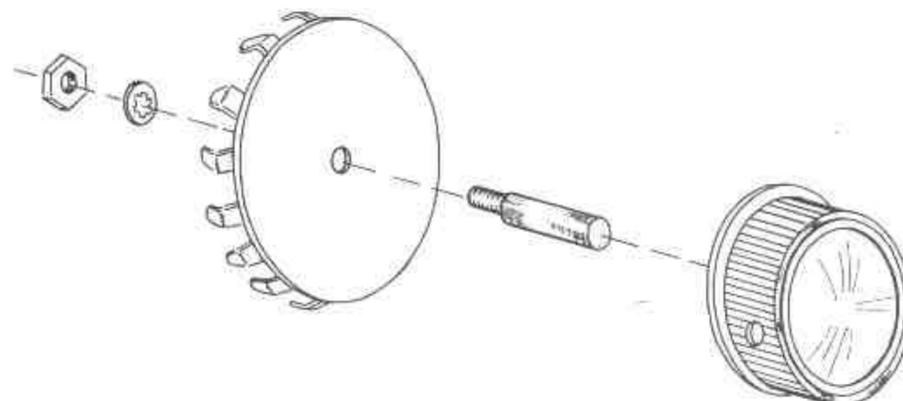

Figure 17
- (✓) The small threaded 1/4" stud is inserted through the large 2" plug button and secured with a #6 lockwasher and a 6 x 32 nut. See Figure 17.